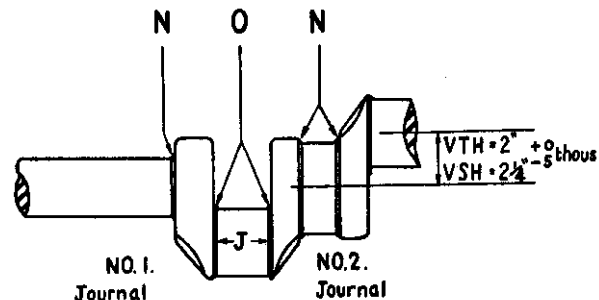

Fig. 18
Large End Journals should be ground on centres shown in Fig. 18, i.e.:-
Main bearing pins— $\frac{1}{8}$ " radius see **N** Fig. 18
Large end pins — $\frac{1}{8}$ " radius see **O** Fig. 18
- v. Check large end pin at 'F', and the reading should be within the limits specified on Fig. 18, i.e.:—